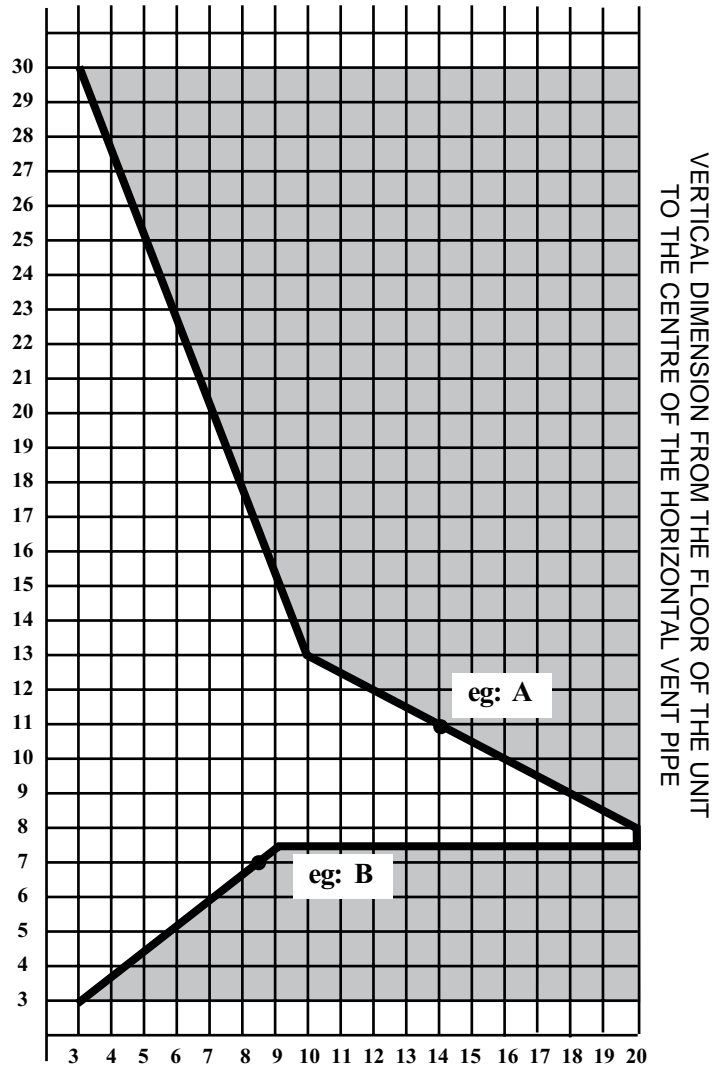

Fig. 47
The graph showing the relationship between vertical and horizontal side wall venting will help to determine the various vent lengths allowable. Fig. 47.
1. Determine the height of the centre of the horizontal vent pipe exiting through the outer wall. Using this dimension on the Sidewall Vent Graph (Fig. 47), locate the point it intersects with the slanted graph line.